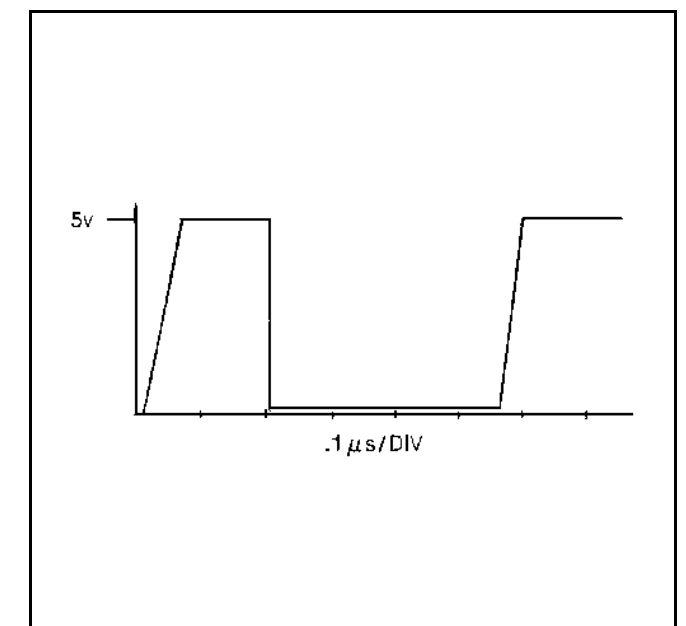

Figure 8 - Microprocessor (U77, Pin 50)
3. Check for oscillator activity by examining the ALE clock on U77, Pin 50 (see Figure 8). If not present, examine the system clock on U77, Pin 30 and 40 (at 11.059 MHz). The presence of the system clock but no ALE may indicate a bad U77. If the system clock is not present, Y1 and related components may be suspected.